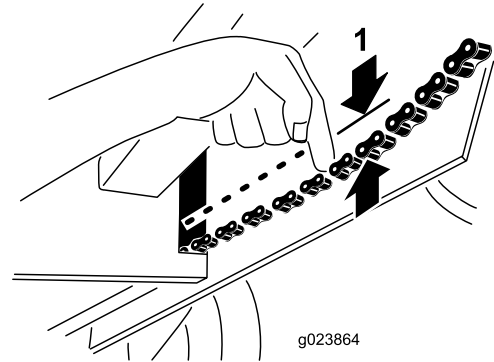

Figure 27
3. Pull down on each chain near the opening in the frame with 9 kg (20 lb) of force (Figure 27). If a chain flexes more than 3 mm (1/8 inch), tighten it as follows: